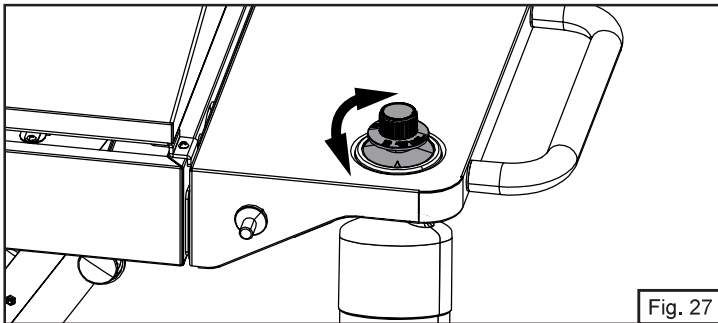

Fig. 27
2. Adjust flame with control knobs (Fig. 27).